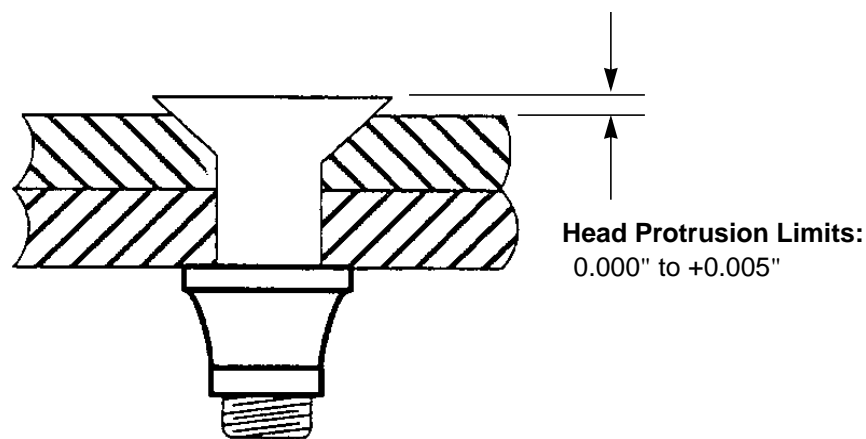

Figure 5 - Head Flushness Requirements
Note 1. The countersink diameters specified herein are for reference only; countersink so that the head protrusion of flush head pins will be 0.000" (i.e., flush) to 0.005" above flush (see Figure 5). It is **NOT** acceptable to shave the heads of Hi-Lite fasteners to meet flushness requirements.
- Step 4. Check that the head protrusion of flush head fasteners meets the requirements of Figure 5. If the head protrusion limits are exceeded, remove the fastener according to section 5.10 and increase the countersink diameter so that the head protrusion limits will be met.